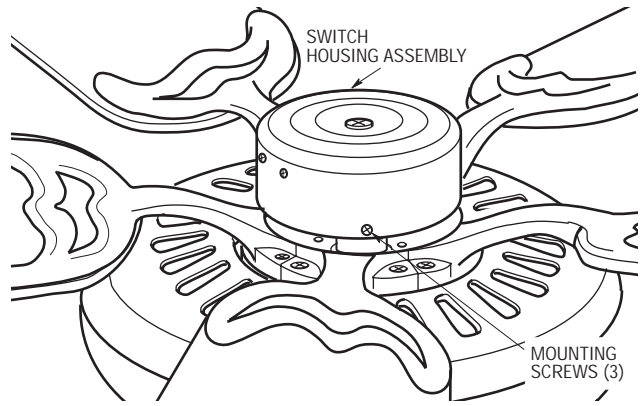

Figure 5
- 10. Remove the three switch housing screws from the switch housing plate. Position the switch housing assembly on the switch housing plate and align the holes in the switch housing assembly with the holes in the plate. Secure the switch housing assembly by installing the three screws (Figure 5).